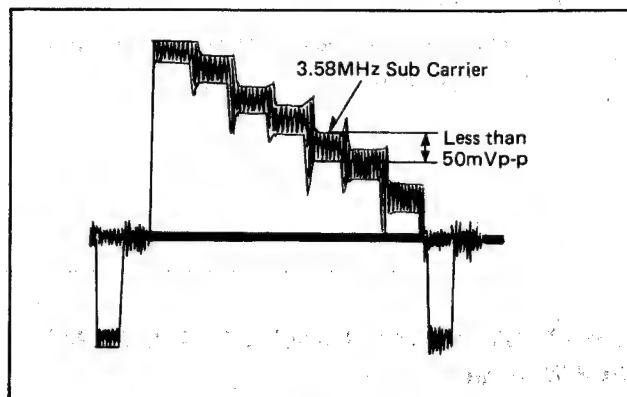

Fig. 5
4. Confirm that 3.58 MHz sub carrier portion of the magenta is less than 50mVp-p as shown in Fig. 5.